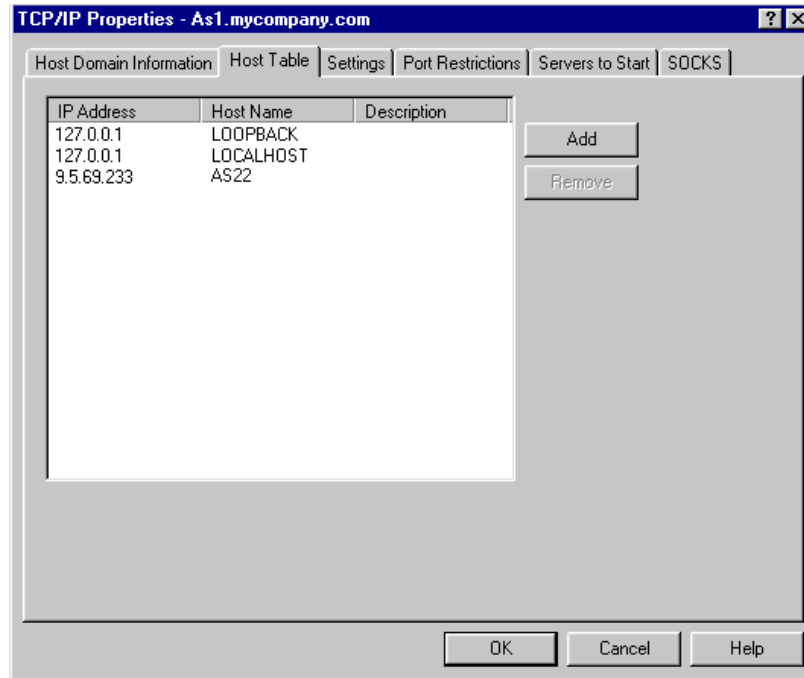

Figure 325. Host Table
4. Click the **Host Table** tab to add and remove host table entries. If you are using the Domain Name System (DNS), you do not necessarily need to add entries here. Figure 325 shows the Host Table dialog.